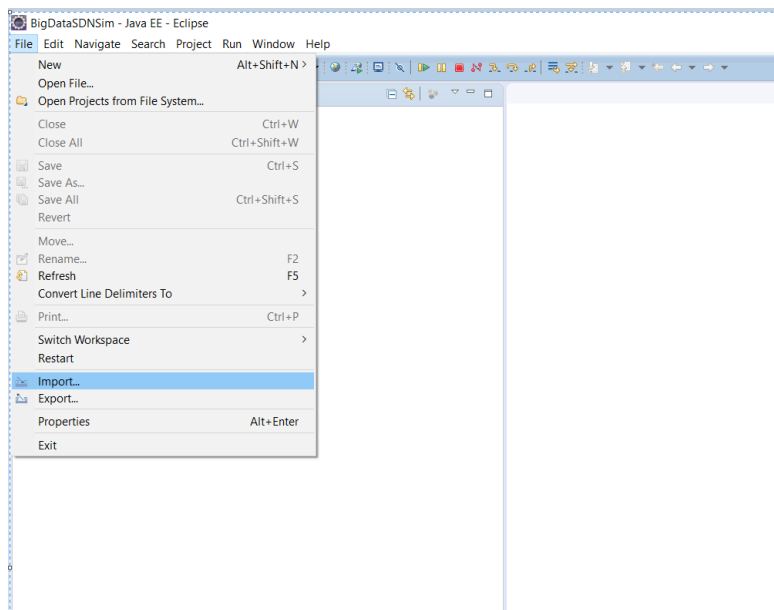

Figure 2.2
Step 2: Import IoTSim-Osmosis as a Maven project by Opening Eclipse -> selecting File -> and selecting import (see Figure 2.2)